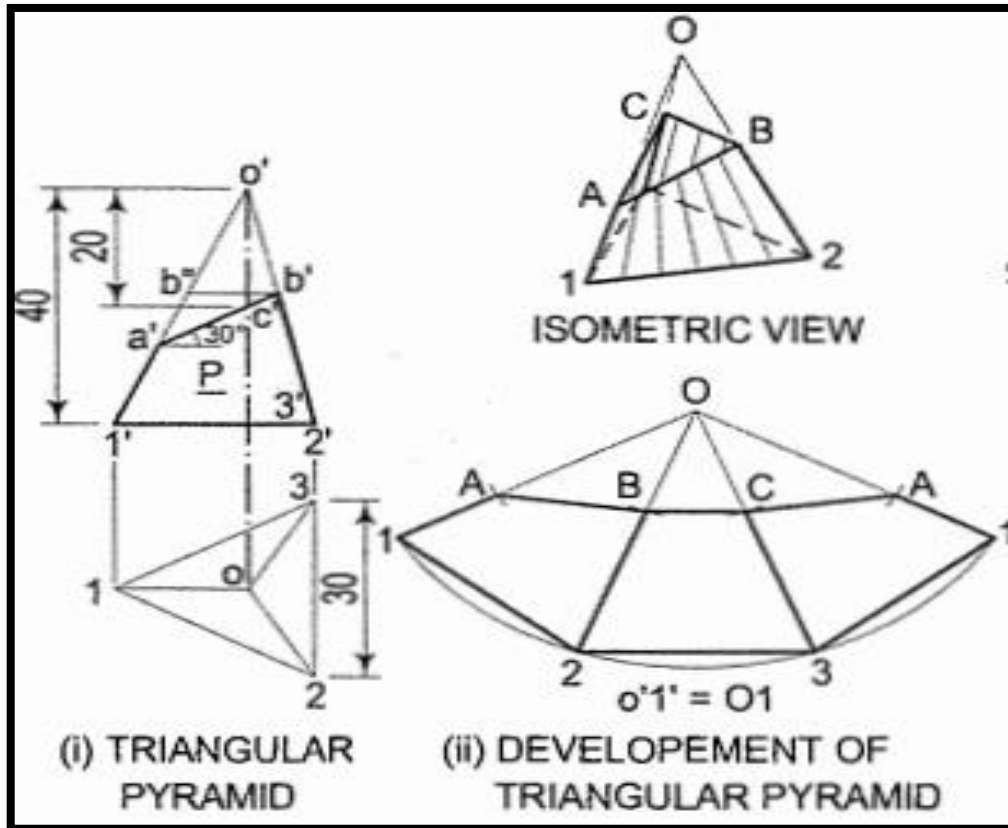

Figure1
9. The figure 1-A-A-1 is the required development.